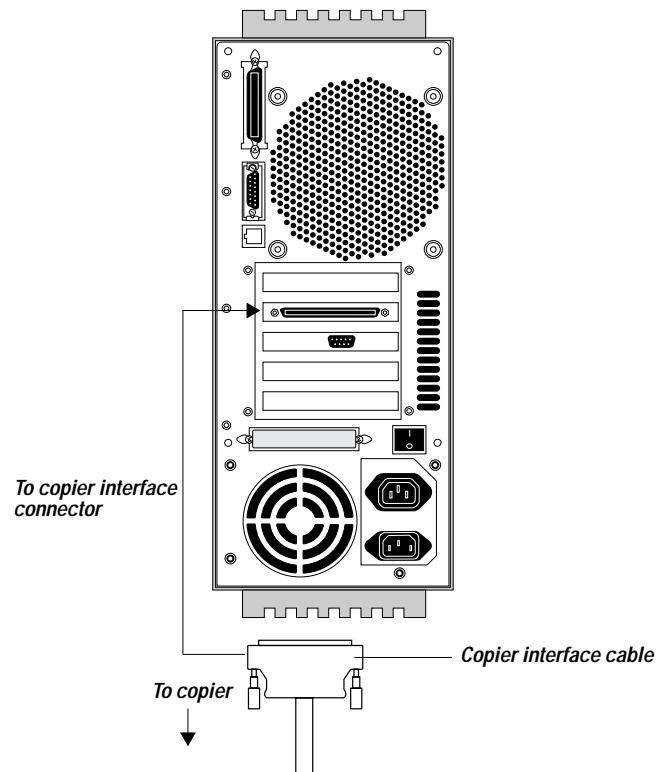

Figure 3-4 Copier interface cable connection
6. *Connect the other end of the cable to the Fiery XJ-R/R2 copier interface connector (see Figure 3-4).*